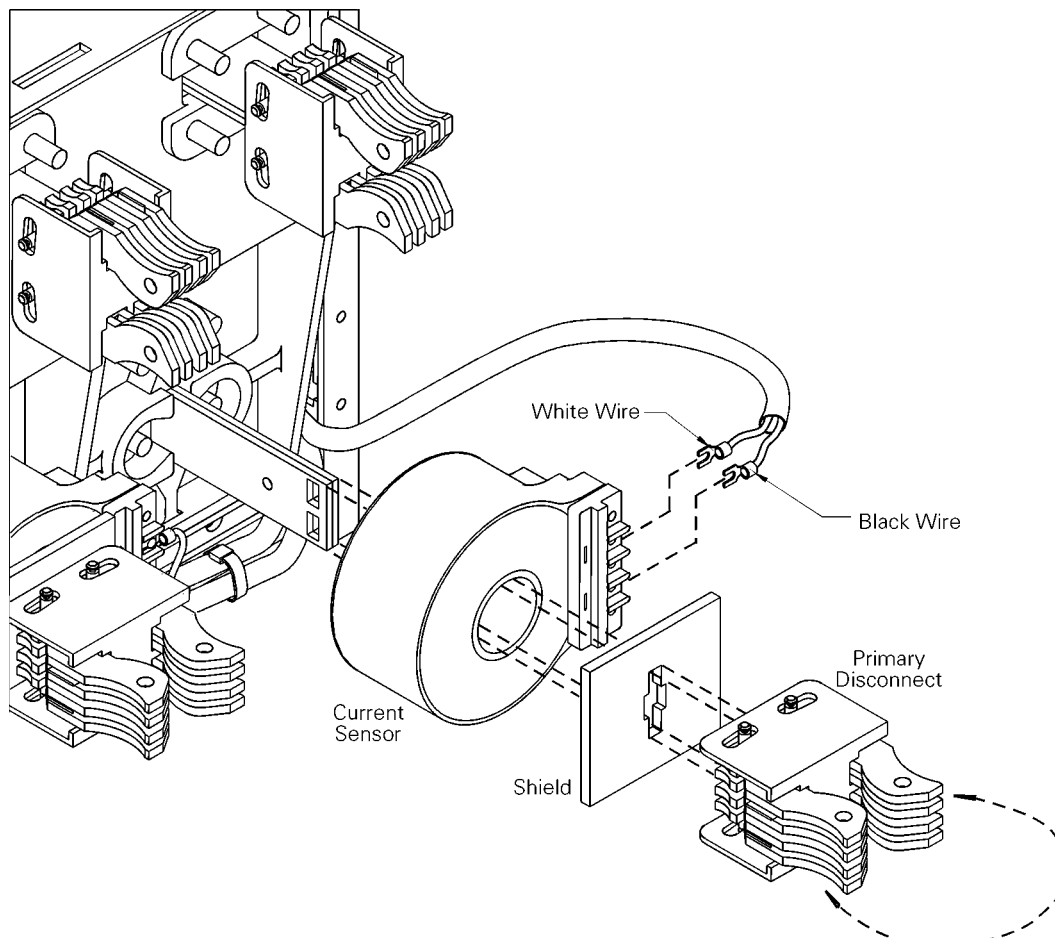

Figure 7-12. Current sensor removal and installation for WPS08, WPF08, and WPH08 breakers.
Use the following procedure to replace a current sensor, as illustrated in Figure 7-12. Current sensors are mounted on the rear of the breaker underneath the primary disconnects on the load studs.
6. Connect the leads as shown in Figure 7-12, maintaining proper polarity (black and white wires.)